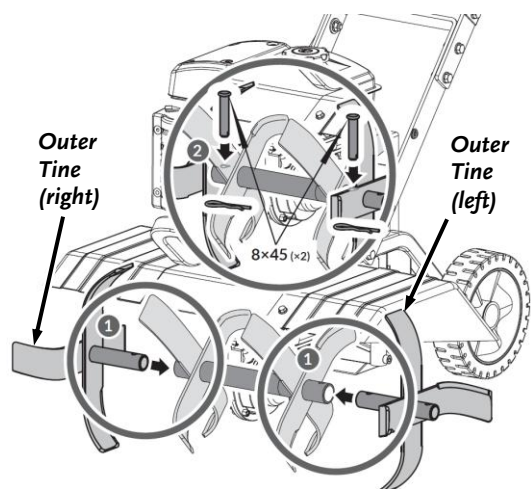

Figure 10
10. Position the two Outer Tines into the Inner Tines and align the holes (**Figure 10**).